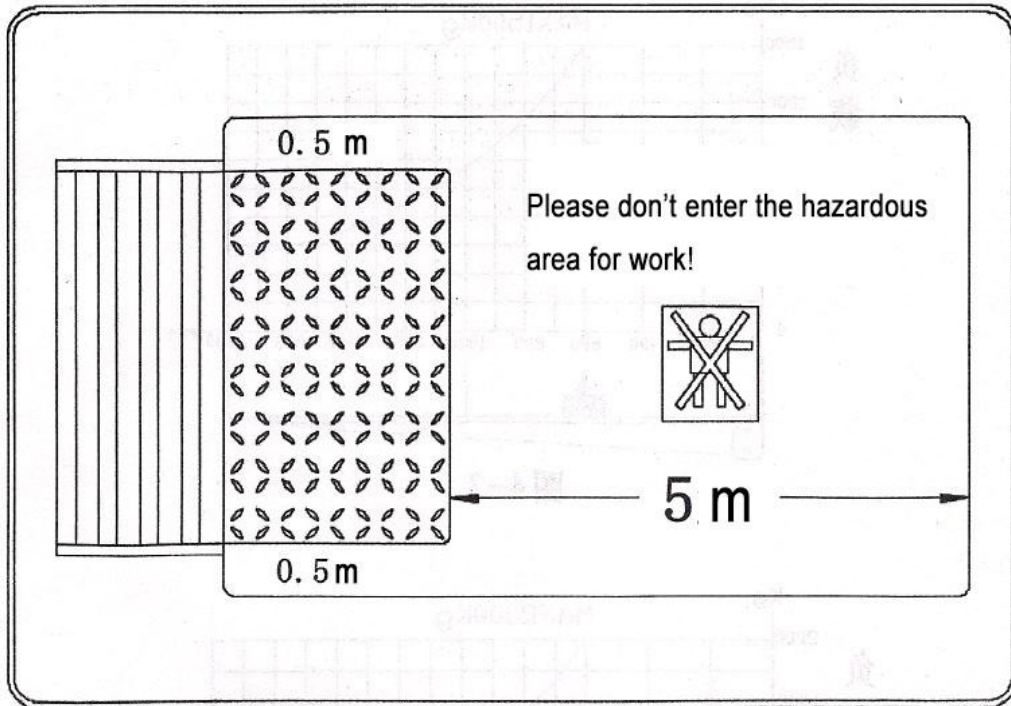

Figure 4-1 Schematic diagram of safe operating distance
2. No personnel are allowed to enter the work area while working on the tailboard. Pay attention to the safe operating distance.(see Figure 4-1)